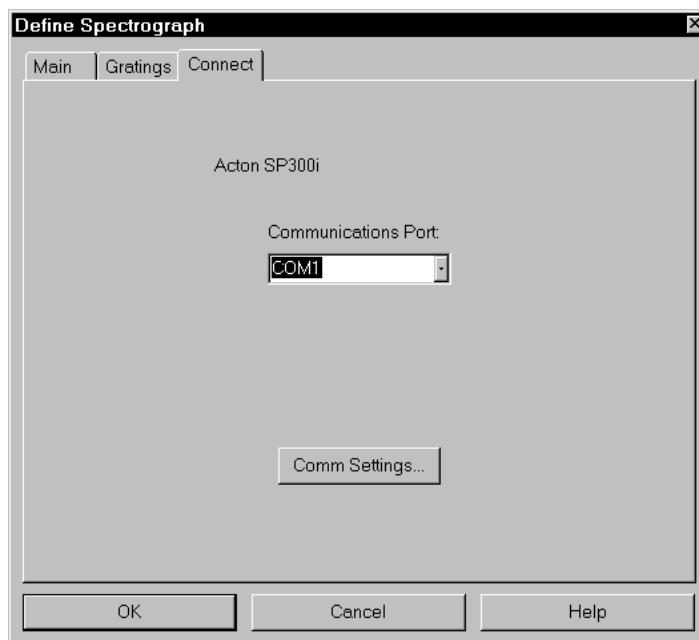
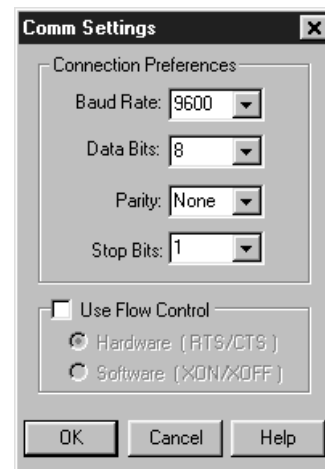

Figure 24. Connect tab page
Figure 25. Comm Settings dialog box
4. Click on **Comm Settings** (Figure 24). This will open the Comm Settings dialog box as shown in Figure 25.
5. Set the connection preferences *according to the requirements of your spectrograph. For Acton Spectrographs, use the settings shown in Figure 25.*